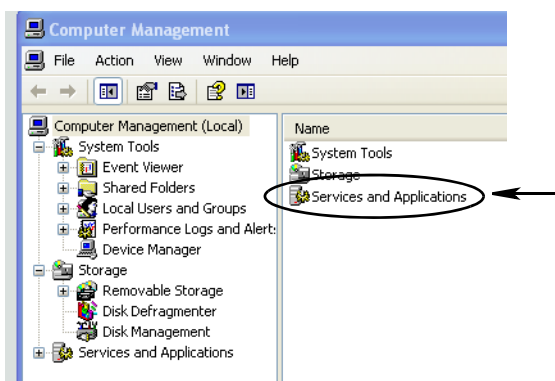

FIG. 54
- b. Double-cliquez sur "Services and Applications" (Services et applications) (FIG. 54).